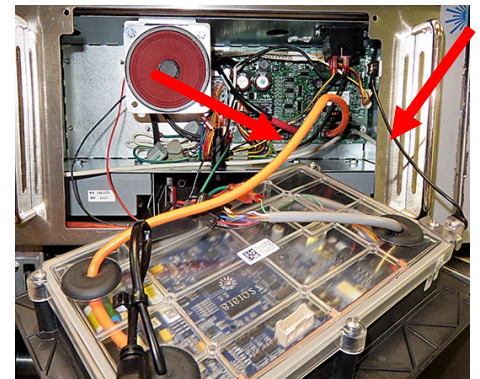

Figure 15
18. Lower the controller and rest it on the bottom of the control box (see Figure 15). The black tether on the right will support the controller.
19. Disconnect the RJ45 cable from the SIB board **FIRST** (see Figures 15 and 16).